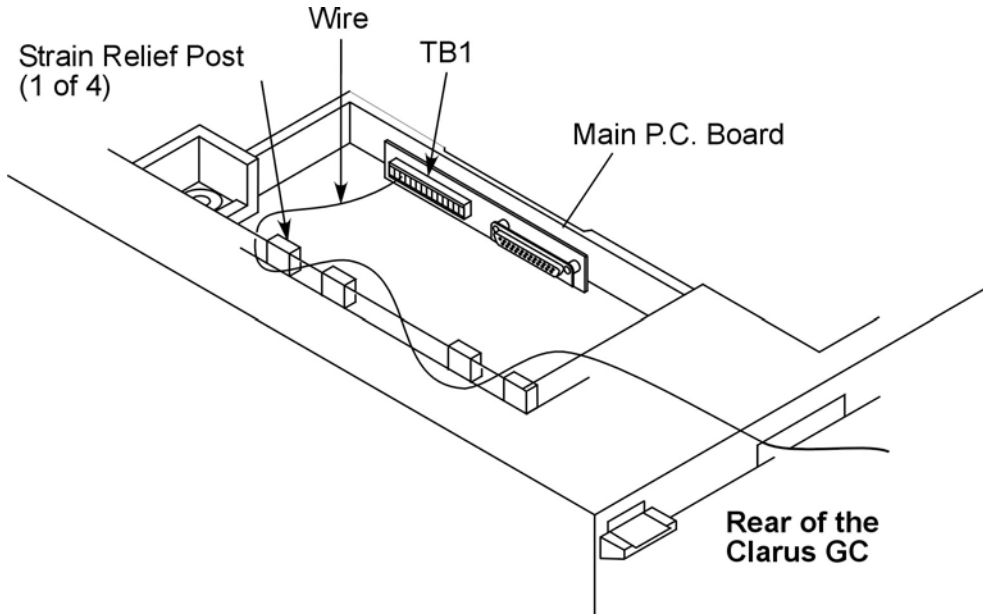

Figure 34. Routing recorder/integrator wires around the strain relief posts.
3. To connect a recorder or integrator to Channel A, connect the ground lead of the device to TB1-13 and the positive lead of the device to TB1-14. Make sure you route the wires around the strain relief posts as shown in Figure 34.